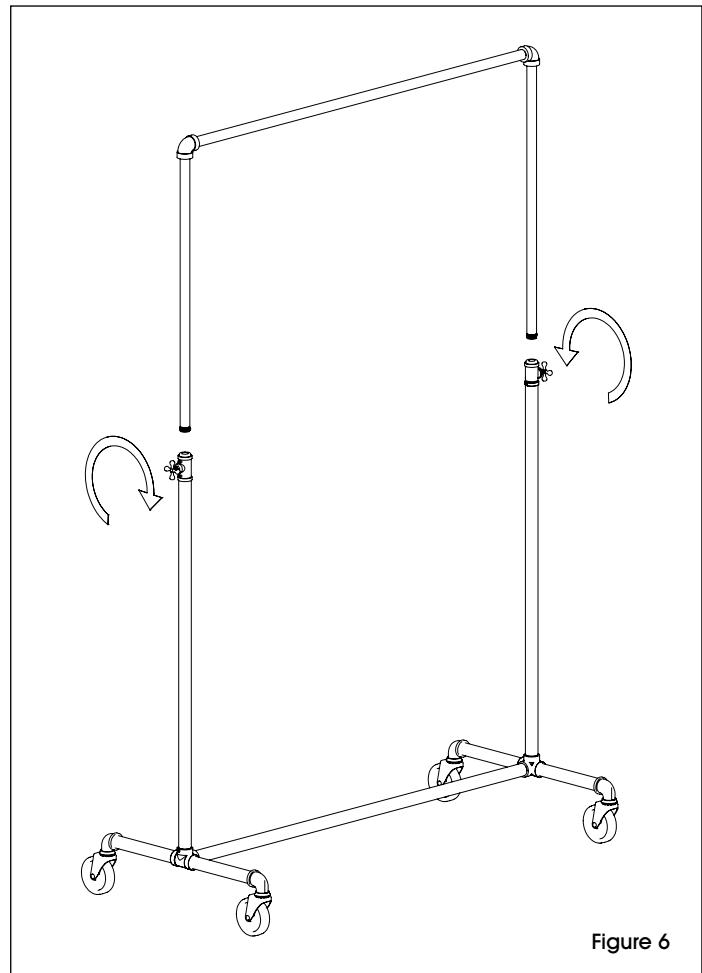

Figure 6
6. Loosen adjustable connectors and insert hangbar with top uprights from step 5. Drop to desired height and lock into position by retightening connectors. (See Figure 6)